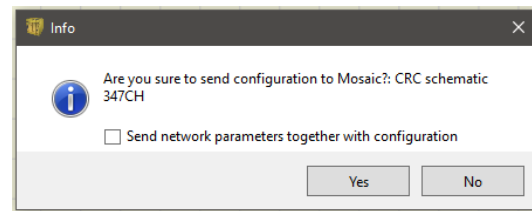

Figure 90 - MOSAIC M1S COM
- ➔ MOSAIC M1S COM only: you can also send the network parameters to Mosaic by selecting the tick in "Figure 90 - MOSAIC M1S COM".